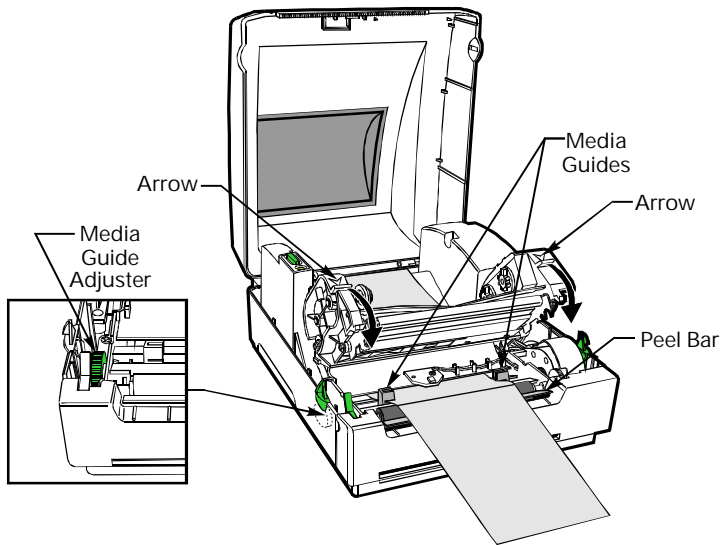

Figure 25
5. Refer to Figure 25. Thread the media through the media guides.
NOTE: *If the media guides must be changed to accommodate the width of the media, turn the green media guide adjuster (refer to Figure 25). The media guides should just touch, but not restrict, the edges of the roll.*
6. Continue to thread the media past the peel bar (refer to Figure 25).
7. Close the printhead by pressing down at both arrows (refer to Figure 25).